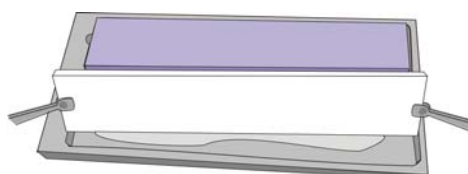

Fig. 4
9. Remove excess electrode buffer from wicks by tilting them vertically and dabbing on the paper pool bottom (fig. 4).